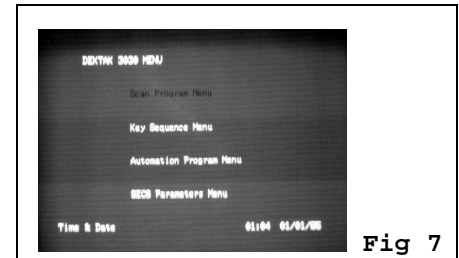

Fig 7
1. Press **PRGM** to display Dektak 3030 Menu. [Fig 7]